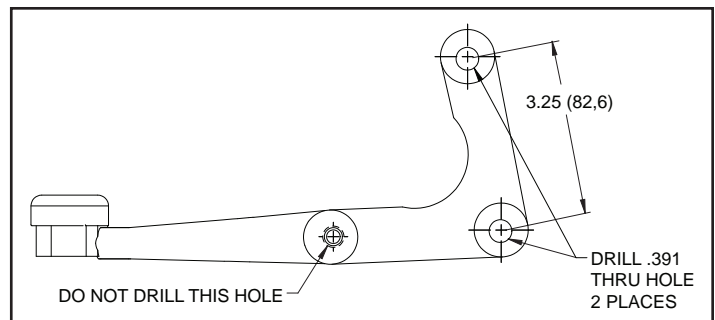

Figure 3. Steering Arm Modification
• To enable installation of the Wilwood caliper bracket, two holes on the steering arm need to be drilled out to .391" diameter, Figure 3